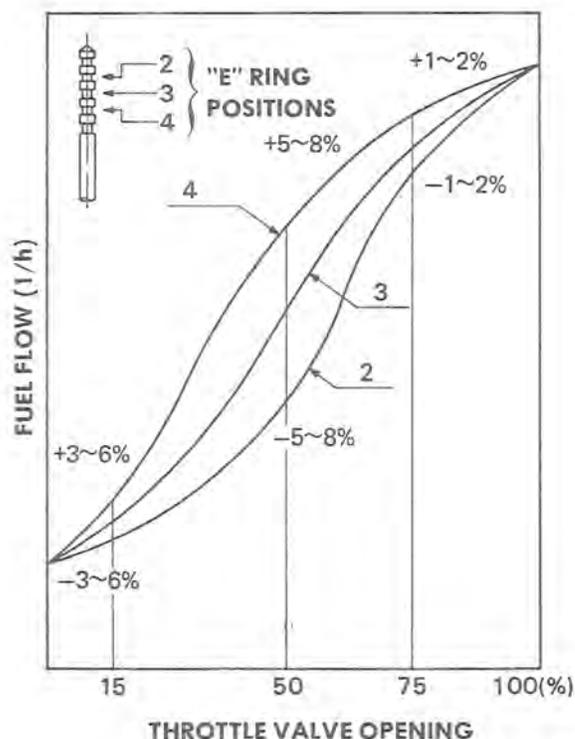

FIG. 2-21
The air/fuel ratio is controlled by the position of the "E" ring that is inserted in one of the five (5) slots on the head of the needle. (See Fig. 2-21).